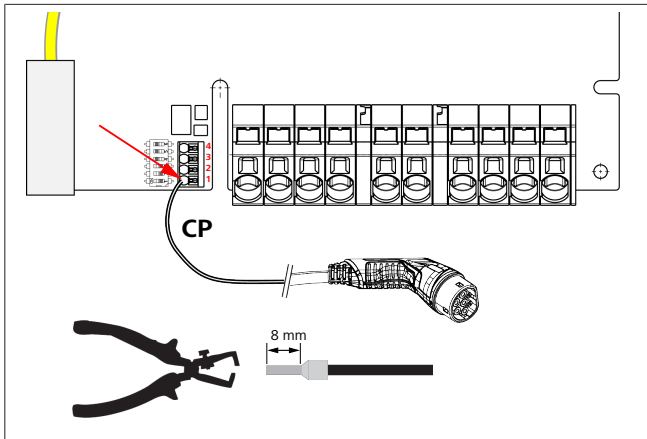

Fig. 7
9. Using the slot-head screwdriver (3.5 mm), connect the individual cable ends according to the specification in Fig. 7 on the right terminal block with the "out" label.